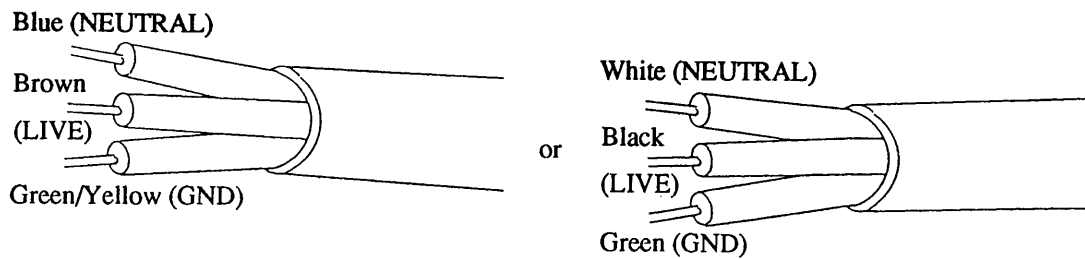

Fig. 1
- Power Cable: to 3-core cable (See Fig. 1 for the colors.)
To connect the AC plug to the AC power cable, connect the respective pins of the AC plug to the respective core-wires (LIVE, NEUTRAL, and GND) of the AC power cable by referring to the color cables shown in Fig. 1.